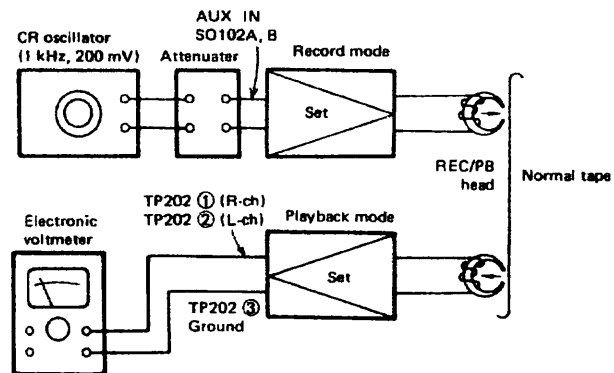

Figure 22-4
- Make connection of instruments as shown in Fig. 22-4, adjust variable resistor VR303, VR304, VR203 or VR204 so that the record/playback sensitivity is as shown in Table 22-4.